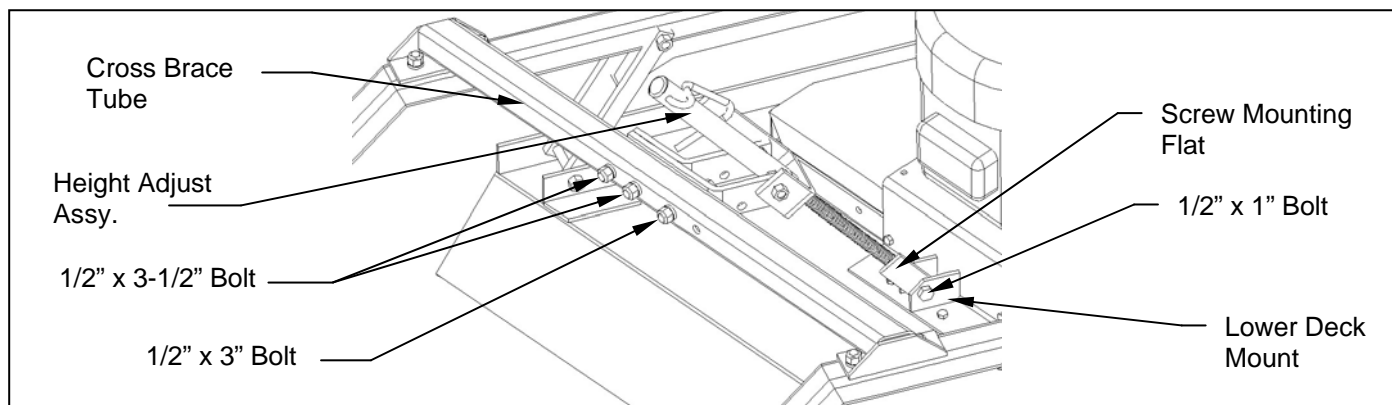

Figure 1: Manual Crank Height Adjust Assembly Removal
A. REMOVAL OF THE MANUAL CRANK HEIGHT ADJUST ASSEMBLY (Refer to Figure 1.)